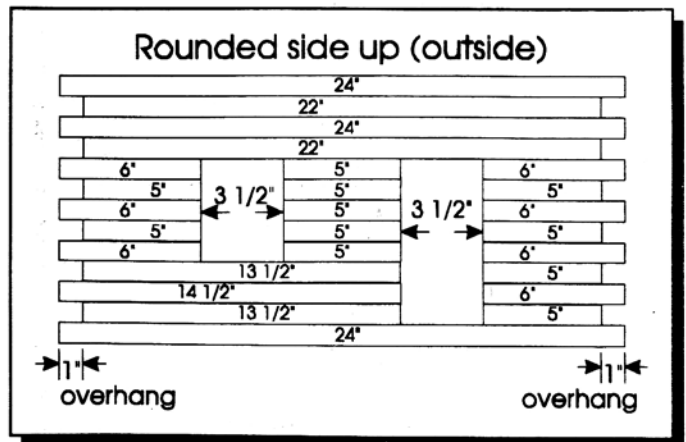

Figure 7- Front Wall
- a. Glue three 24", two 22", one 14 1/2", two 13 1/2", seven 6", eleven 5" pieces together. See Figure 7.